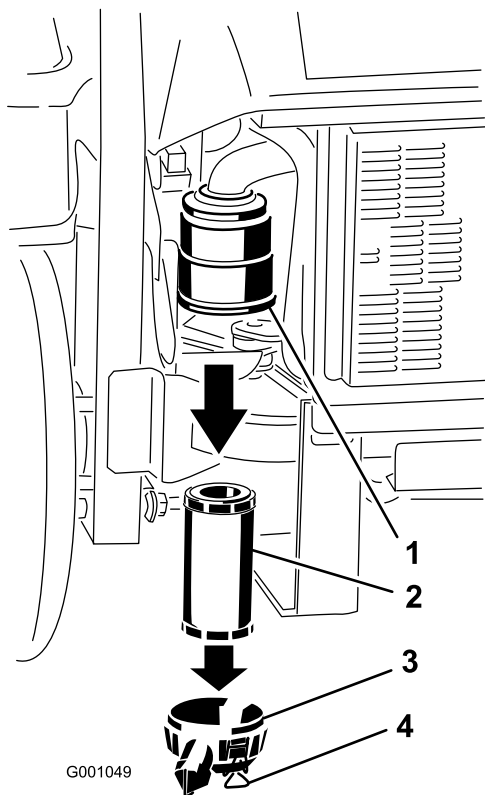

Figure 52
3. Release the latches on the air cleaner and pull the air-cleaner cover off the air-cleaner body (Figure 52).
5. Gently slide the filter out of the air-cleaner body (Figure 52).